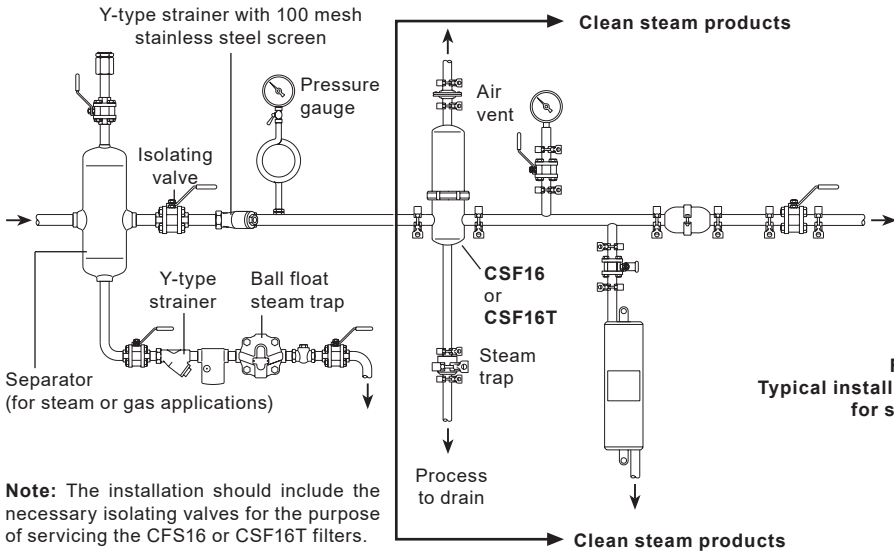
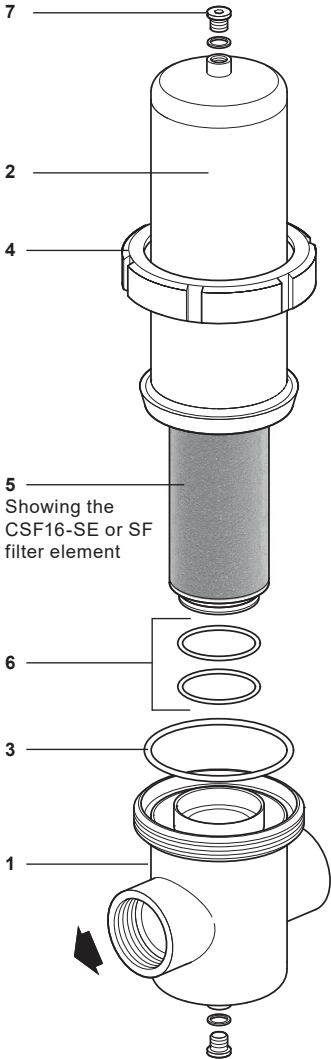

Fig. 5
Fig. 7 DN8 to DN80
5. When used on steam the drain plug and gasket on the filter bowl should be removed and a steam trap installed below the filter. The condensate from this trap should be piped away to drain, or to the receiver of a pump, providing there is no backpressure, i.e. lift, is imposed upon the steam trap (see Figure 5). If it is not possible to install a steam trap at the drain point, then a full size equal tee drain point or inline separator with suitable steam trap should be incorporated into the horizontal pipework prior to the filter. It is recommended that an air vent is fitted to the top connection on the filter head.
Once the pipework installation has been completed in accordance with Section 3 (Fig. 5 or 6) the following steps should be taken in sequence, referencing Fig. 7 and 8, to commission the CSF16 and CSF16T filters: